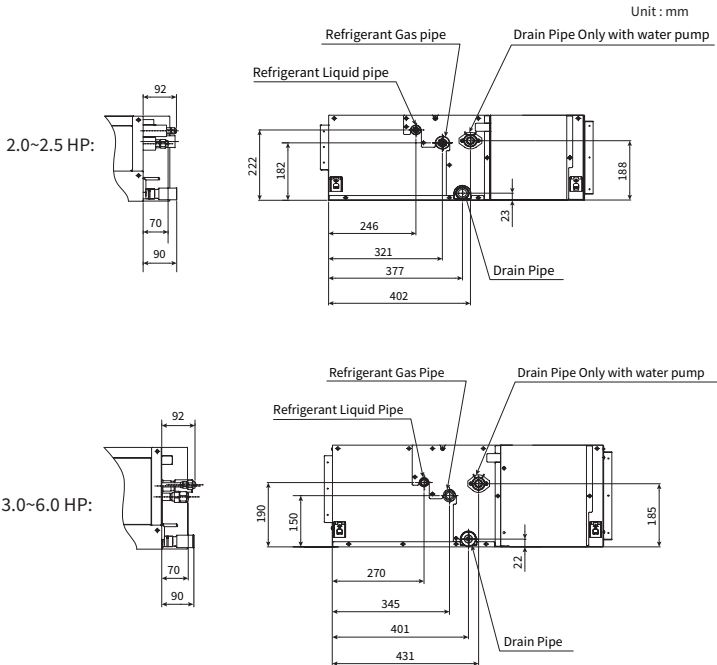

Figure 5.1 Positions of the Pipe Connection
1. See positions of the pipe connection in figure 5.1.
- Position for the selected drain pipe is shown in figure 5.1 and the drain hole below is blocked with a rubber plug.